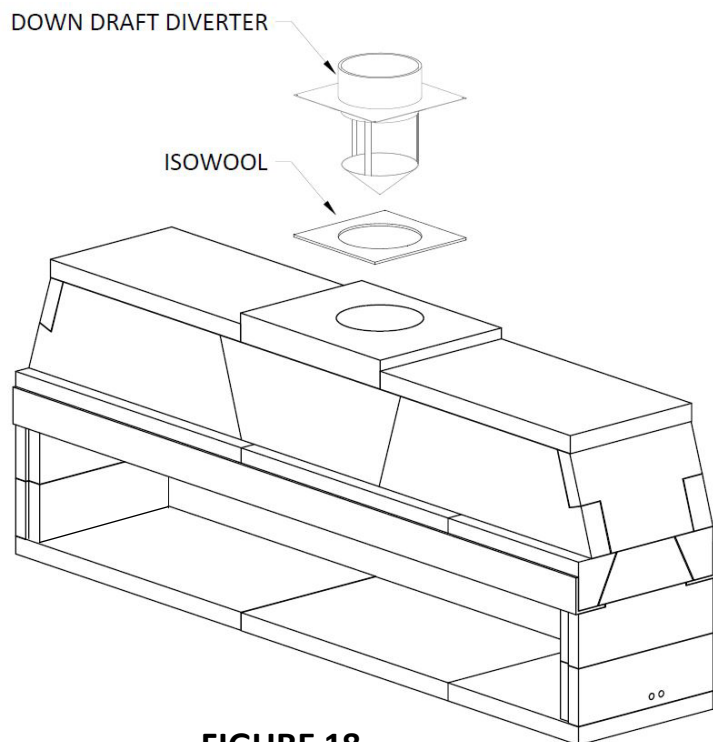

FIGURE 18
- 2) Center the Isowool blanket over Isokern Top Plate's outlet and trace the outlet's outline with a pen or marker. Cut a hole in the blanket along this outline to match the hole in the Isokern top plate. Center the cut Isowool blanket over the Isokern Top Plate flue opening, then center anchor plate over the Isowool blanket (**Figure 18**).
- 3) Secure the Anchor Plate with four (4) masonry anchors.